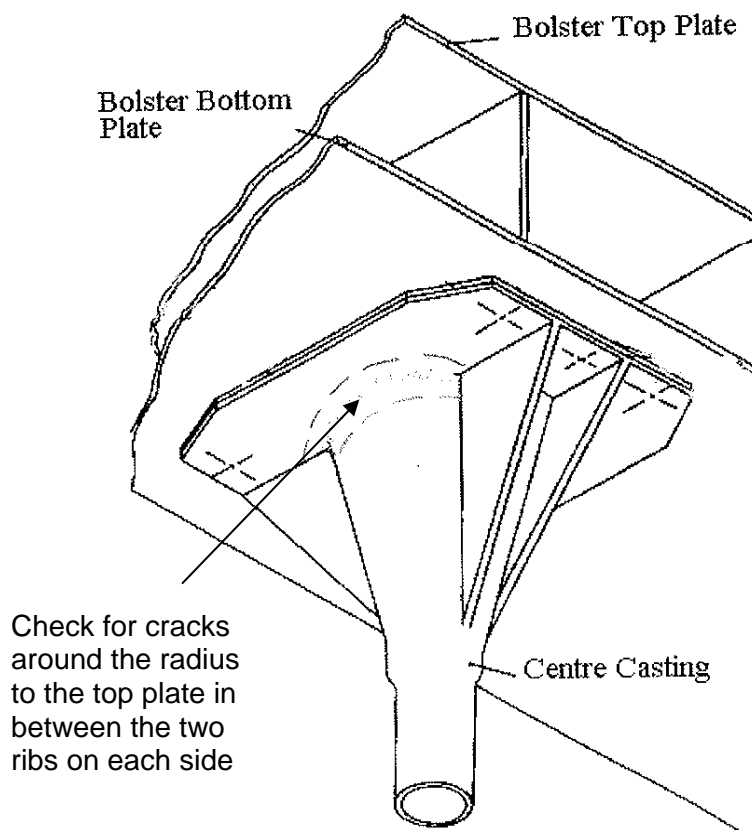

Figure 1: Location for MPI Inspection on Centre Pivot Casting
1. Remove the paint from the centre pivot casting at the top of the tapered cylindrical section around the radius to the top mounting plate in between two opposed ribs on each side as shown in Figure 1.
2. Inspect the two locations (see Figure 1) using a magnetic particle procedure (see Reference Documents item 2).
4. Prepare and paint areas shown in Figure 1 where paint has been removed in accordance with Reference Documents item 1.